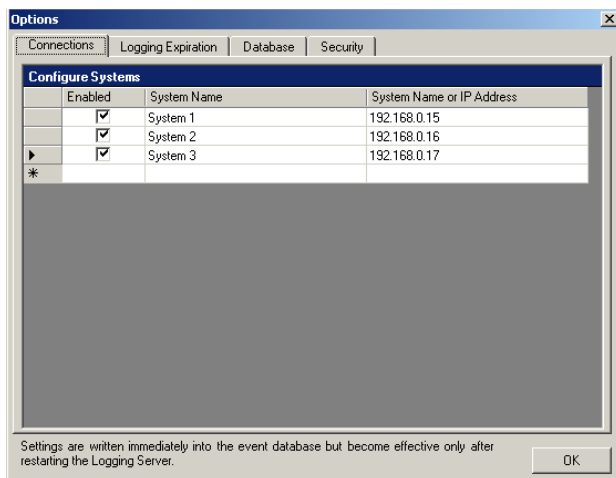

figure 56.10: Delete a system (2)
- 2 On the keyboard of the PC on which the *Logging Server* is running, press the *Del* key. The system is removed from the list (see figure 56.10 for an example).